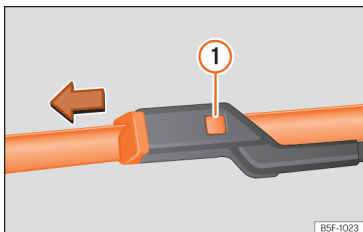

Fig. 220 Changing the windscreen wiper blades
- Press and hold release button >>> Fig. 220 ① and pull gently on the wiper blade in the direction of the arrow.